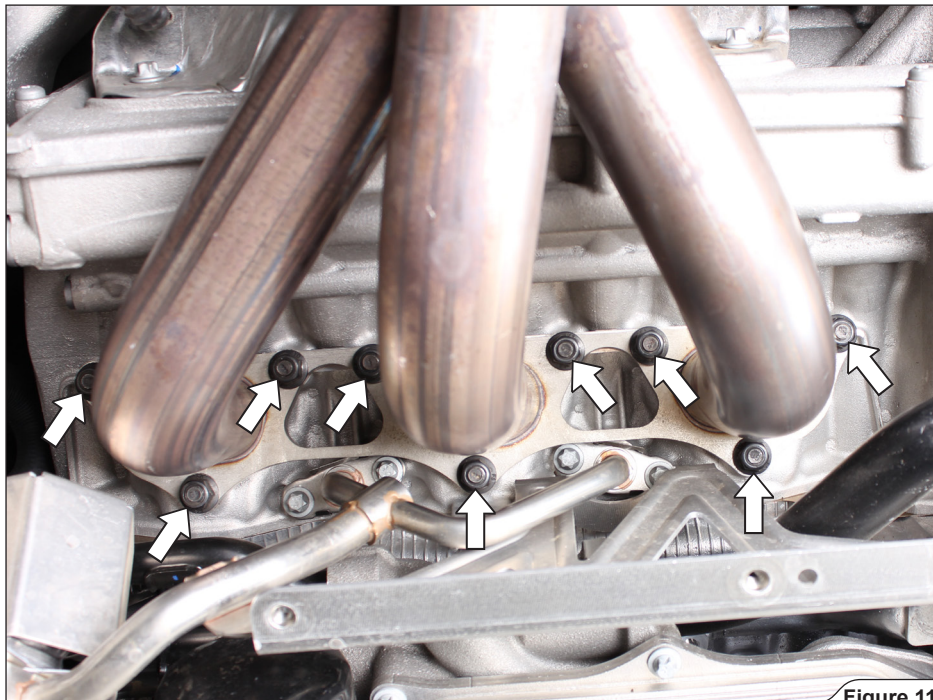

Figure 11
9. Unscrew marked flange bolts and carefully remove both headers off the vehicle (**Figure 11**).